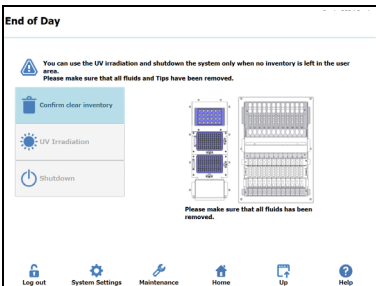

Figure 17: End of Day screen
24. On the Home screen, select “End of Day”. The following screen is shown (Figure 17).